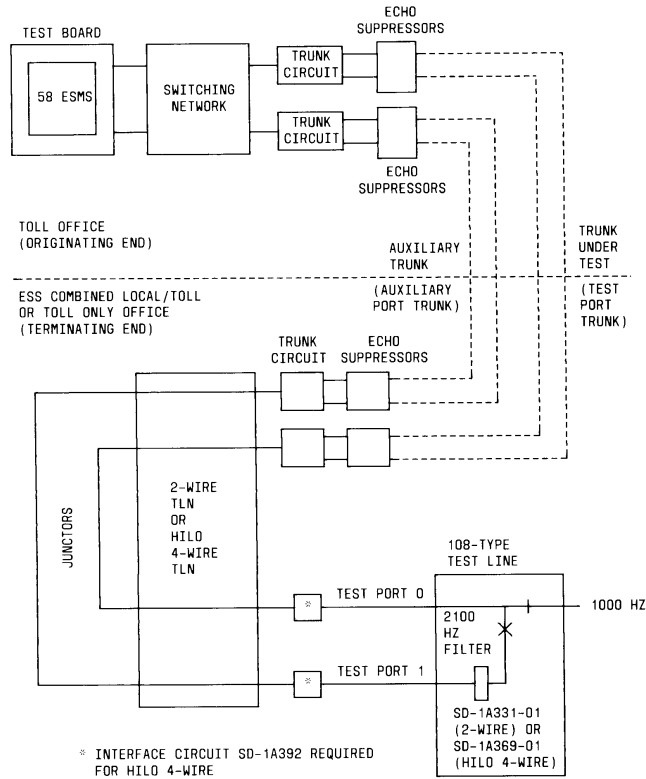

Fig. 1—Functional Arrangement of the 108TL Feature
3.02 The functional arrangement of the 108TL feature is shown in Fig. 1. No maintenance personnel actions (except routine equipment maintenance of 108-type test line(s)) are required in a No. 1 or No. 1A ESS office containing the 108TL feature (terminating end).